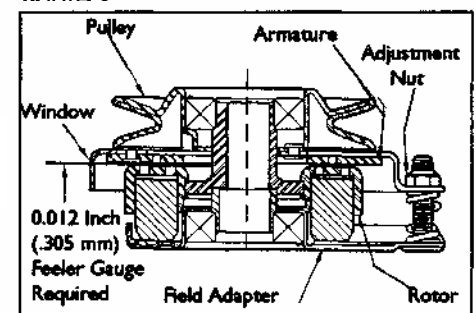

figure 3
5. Insert a .012 inch feeler gauge into one of the three windows. Be careful to position the feeler gauge between the rotor and armature faces (figure 3).